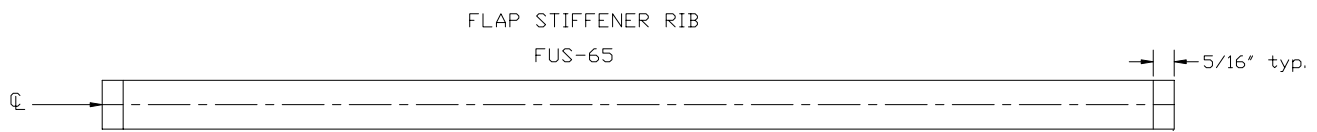

Figure 15.13.2
- 3) On the top flanges of the forward two sets of bulkheads draw a line down the center, then mark a line on both ends 5/16" in from the end. Figure 15.13.2.